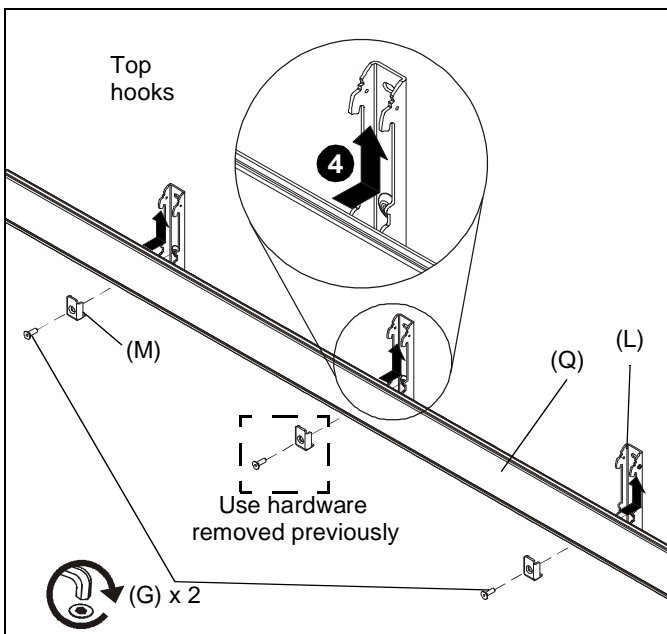

Figure 12
4. Place wall mount (Q) onto wall brackets by lifting mount up under wall bracket (L) top hooks and swinging bottom of mount against wall brackets. (See Figure 12)
5. Fasten wall mount (Q) to wall brackets (L) using two wall mount clamps (M) and two 5/16 x 1" flat head cap screws (G). (See Figure 12)
NOTE: Also use flat head screw(s) and mount clamp(s) removed earlier from existing wall bracket(s) for attachment to wall brackets included with WMAL72 and WMAL106. (See Figure 12)